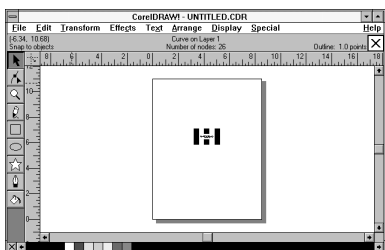

Fig. 5
9. Notice that the resistor has eight black boxes around it indicating that the part is SELECTED. The selected status of the part means that it is ready to be modified in regards to its size, position, orientation or other facet. The screen should look as it does in **Figure 5**.